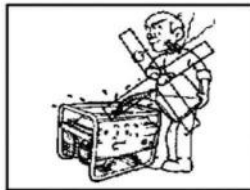

Fig5
5. Smoking and igniting and sparking are prohibited while refilling. (Fig 5)